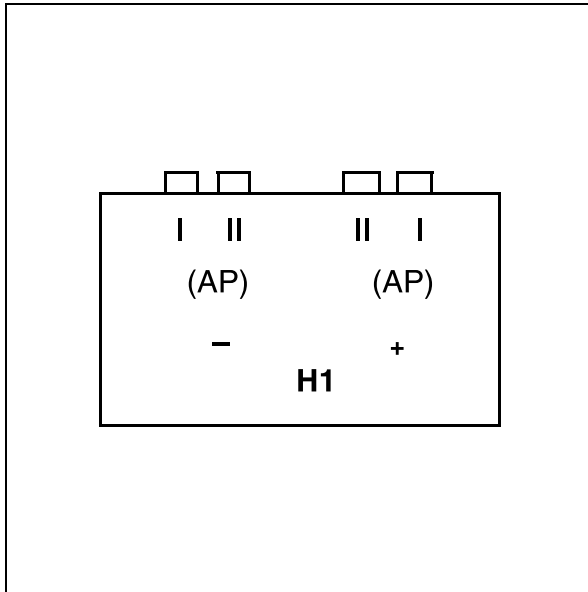

Fig. 22:
- If only one tube is connected, allocate the first workstation ! WS1) to the high-voltage transformer (Fig. 22 / p. 36).